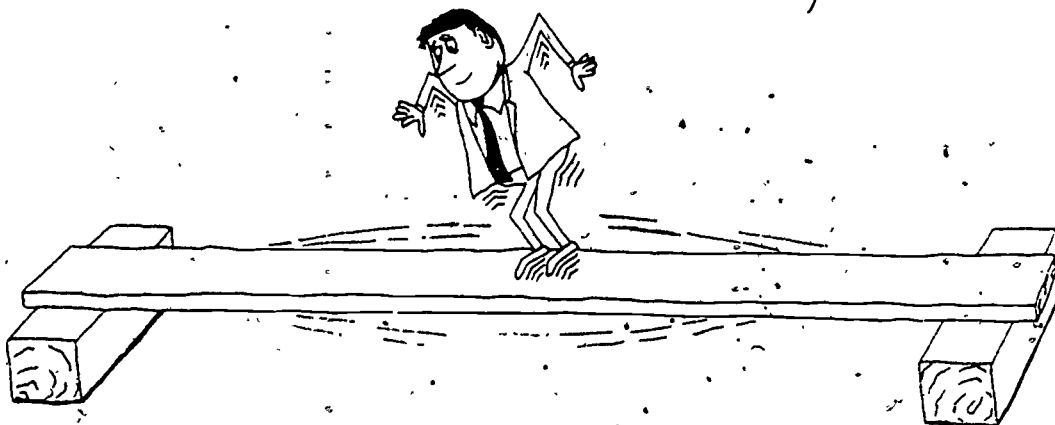

Figure 2-15. Testing a scaffold board.
- Test scaffold boards before using by jumping on them, as shown in figure 2-15.